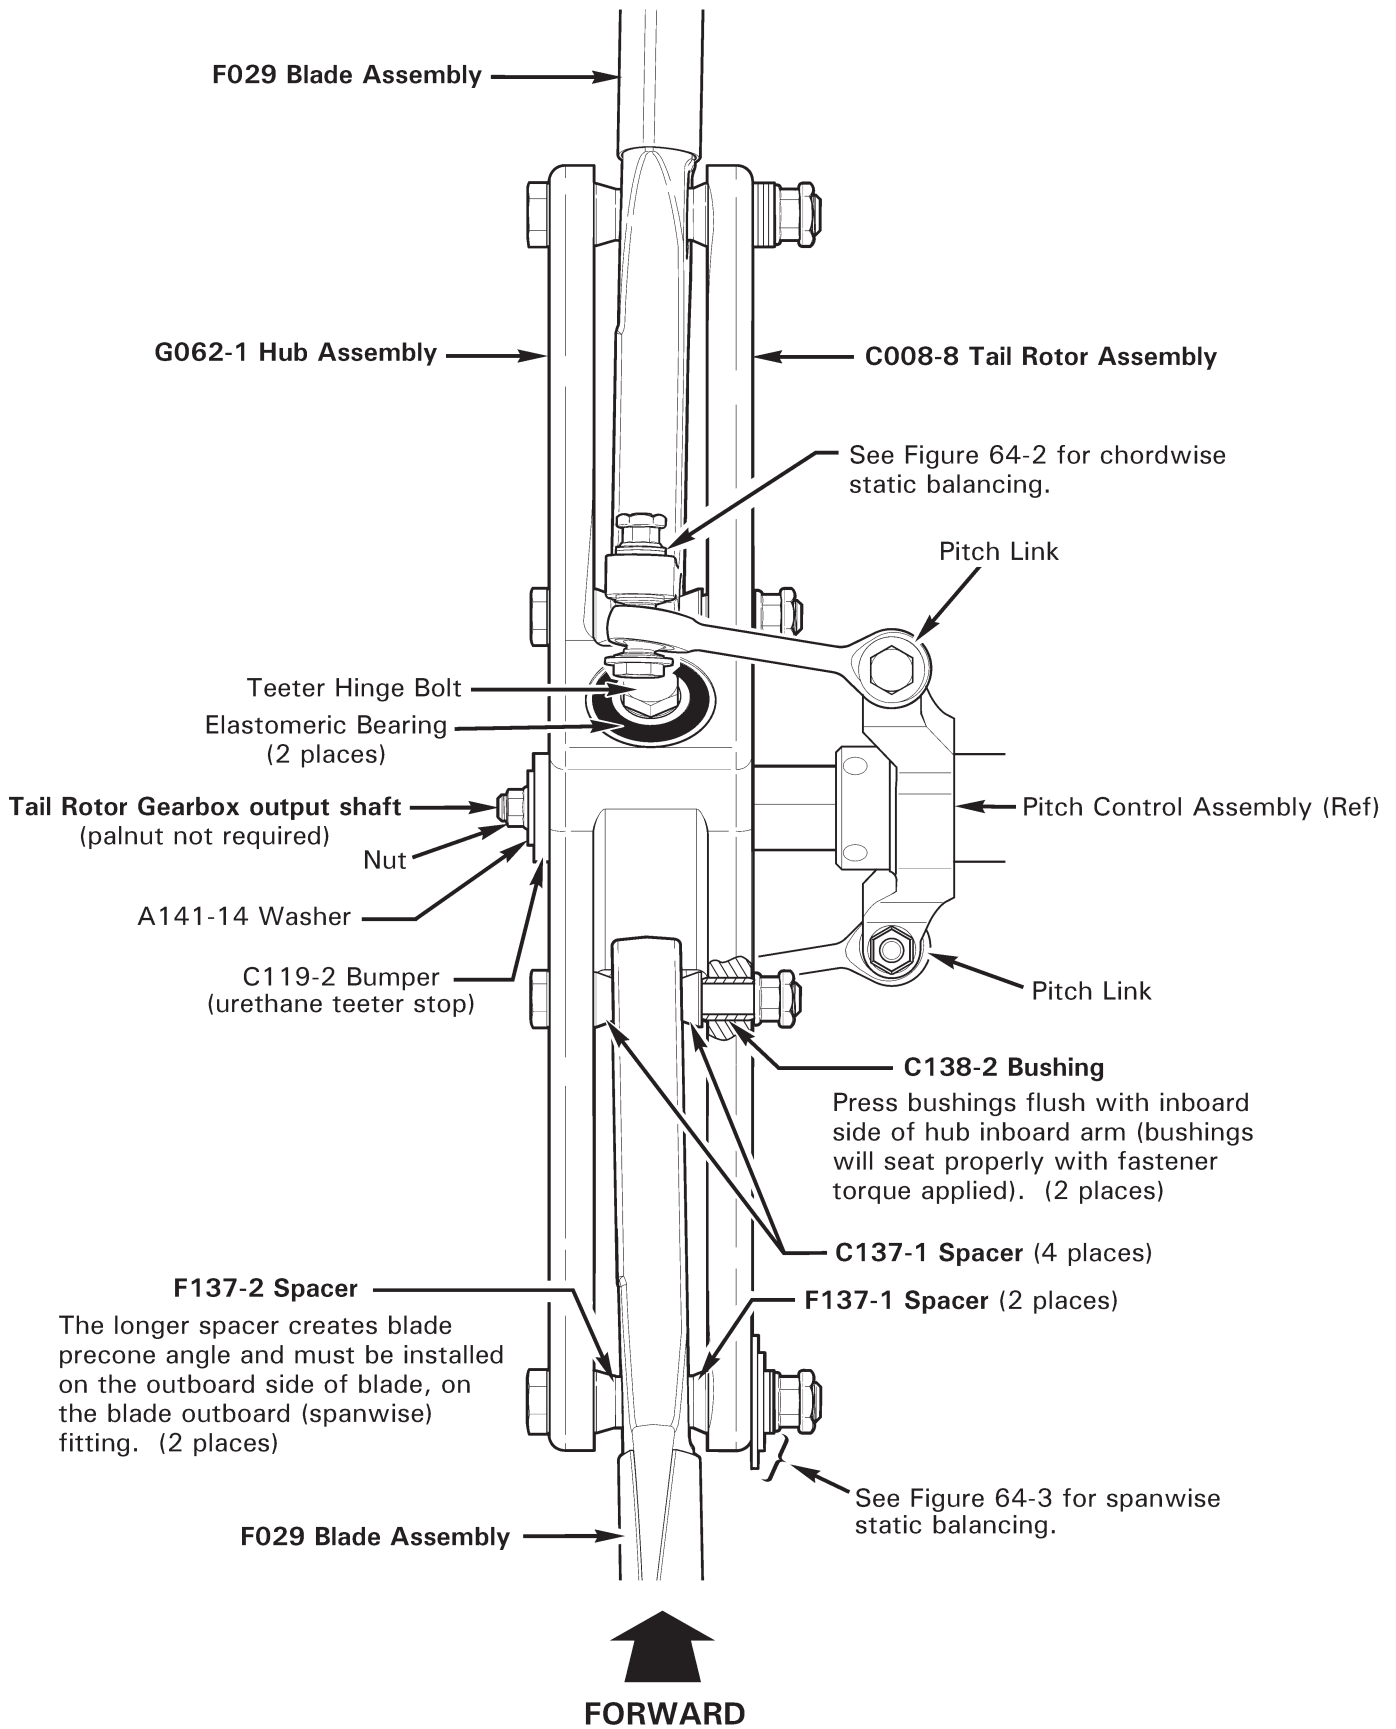

FIGURE 64-1 TAIL ROTOR INSTALLATION
1. Refer to Figure 64-1. Tag each pitch link with corresponding blade serial number for reinstallation. Remove hardware securing pitch links to tail rotor blades, noting hardware removed.
1. Refer to Figure 64-1. Position tail rotor assembly on tail rotor gearbox output shaft. Verify tail rotor is installed for clockwise rotation when viewed from left side of aircraft. Verify blades cone toward tail rotor gearbox.
Refer to R66 Illustrated Parts Catalog (IPC) Figure 64-1.
2. Refer to Figure 64-1. Remove hardware securing F029 blade assemblies to G062-1 hub assembly. Remove blades, spacers, and hardware; do not remove C138-2 bushings unless required.
2. Refer to Figure 64-1. If removed, apply light coat of approved primer per § 20-70 to outer surface of C138-2 bushings; while primer is wet, press bushings flush with inboard side of hub inboard arm (bushings will seat properly with fastener torque applied).